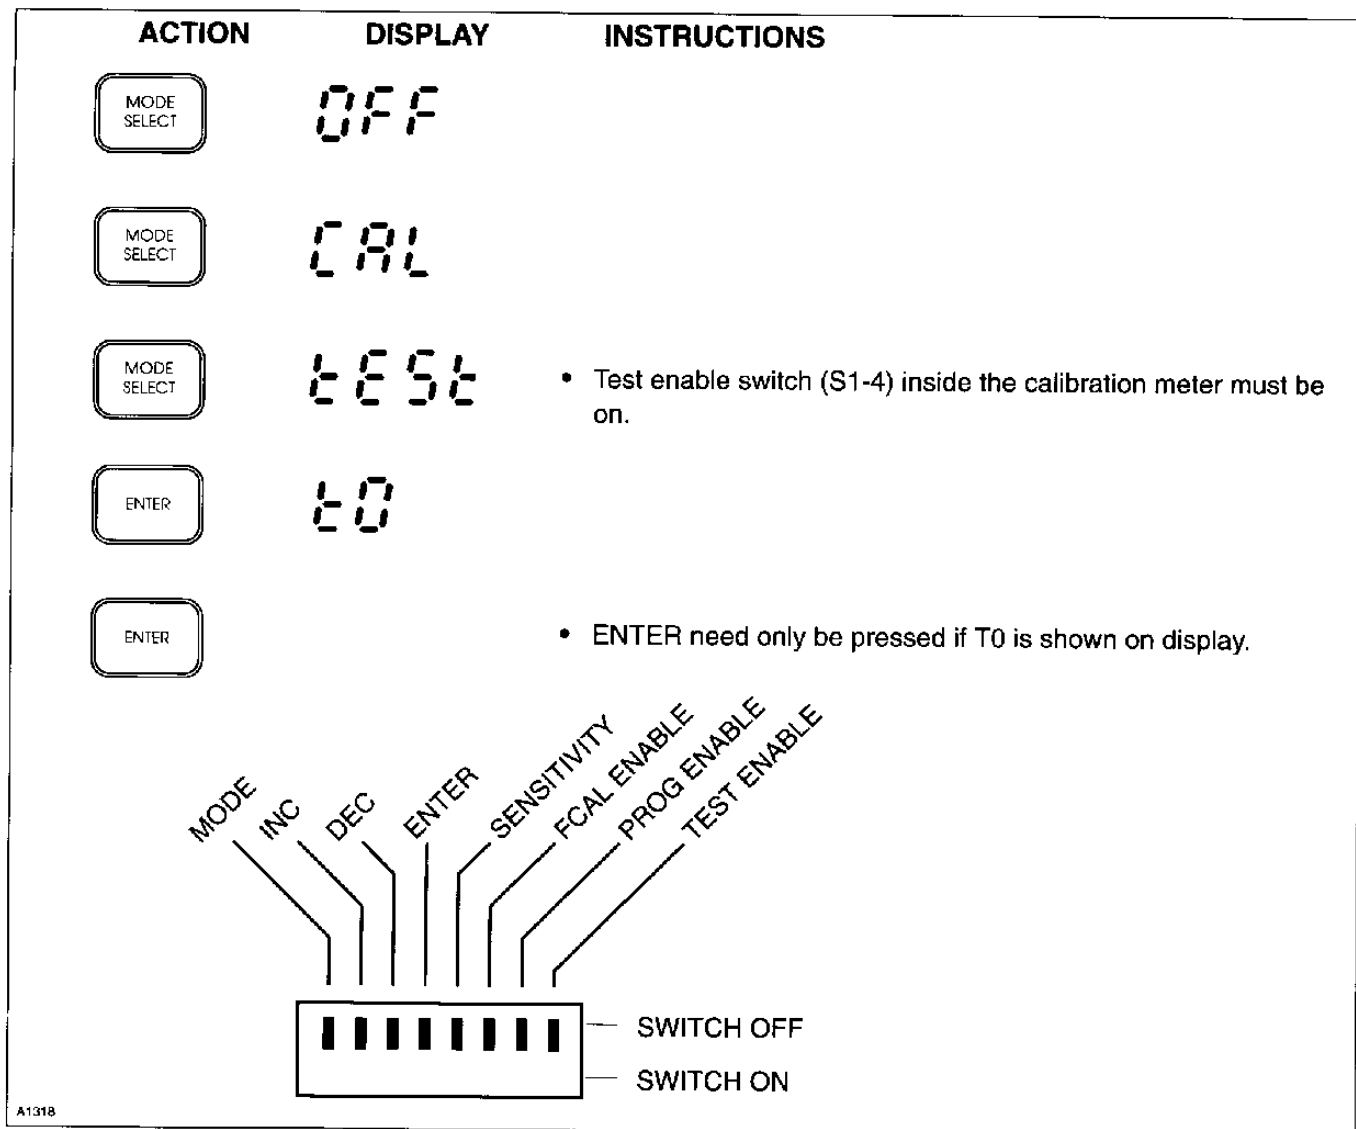

Figure 24—T0 Routine
1. Press the MODE SELECT button to display "test" on the digital display. See Figure 24.
3. Press ENTER. The display shows the switch positions using the pattern illustrated in Figure 24.